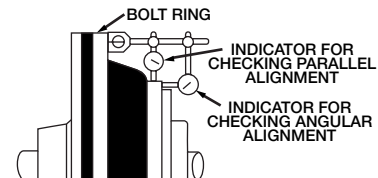

Fig. 3
5. **Check Shaft Alignment:** Although shafts may be perfectly aligned at installation, some parallel and angular misalignment usually develops in usage because of shift of the driving and driven units. Check both parallel and angular alignments by mounting indicators near the O.D. of the flange as shown in Fig. 3 and rotate the coupling thru 360°. For good installation neither indicator reading should exceed the value shown in column "D" in Table 1. Both alignments should be rechecked after any repositioning.